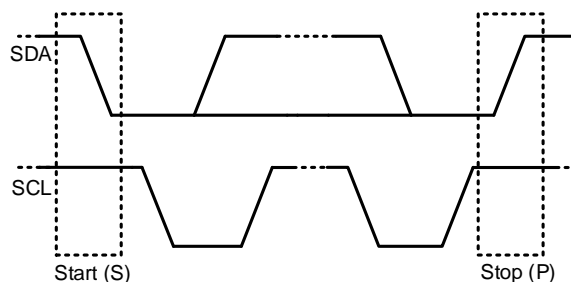

Figure 6: Start and Stop Conditions
All transactions begin with a start (S) command and are terminated by a stop (P) command. The start and stop commands are generated by the master. A start command is defined as a high to low transition on SDA while SCL is high. A stop command is defined as a low to high transition on SDA while SCL is high. Figure 6 shows the start and stop commands.